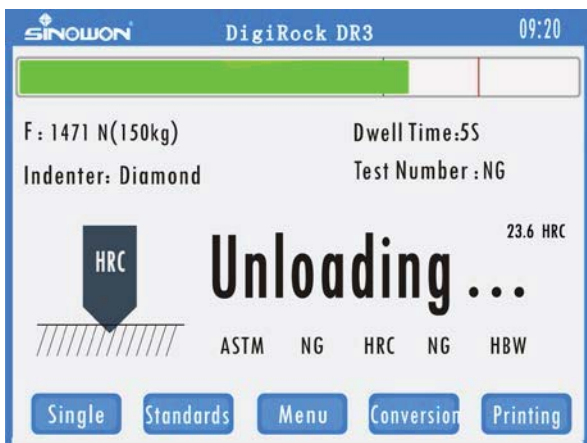
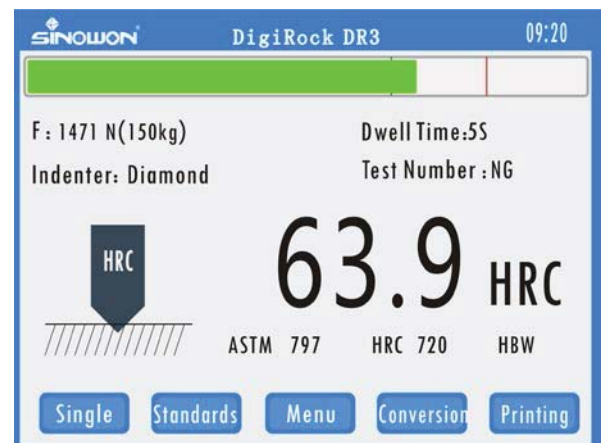

Fig 5-15 Unloading
Fig 5-16 Hardness Result
5.3.5 The motor should be started, making the automatic loading of main test force. The dwell time of the total test force is 5 seconds and the screen will back-counting of the dwell time to 0 second (see Fig 5-15).The motor should be turned again; the instrument automatically unloads the main test force; then keeps the initial test force. When the buzzer sounds, read out the hardness value showed in the Hardness Value Displaying Area on the screen, see Fig 5-16.